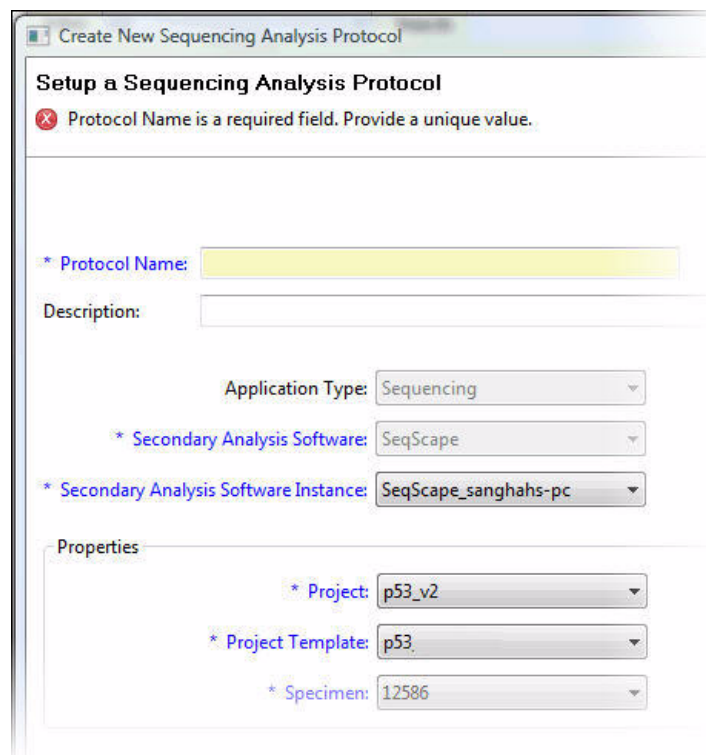

Figure 30 Create New Sequencing Analysis Protocol
3. In the Create New Sequencing Analysis Protocol dialog box (Figure 30 on page 190), specify settings (see Table 18 on page 190).